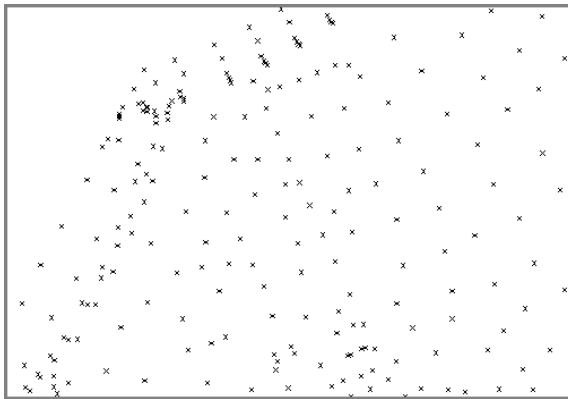

FIGURE 3.3 So far, importing data shows only a bunch of relatively meaningless x markers in the drawing.
12. Zoom in to the drawing, and examine what you see (see Figure 3.3).
As you might guess, the process of making a drawing out of point data is quite tedious and presents an opportunity for automation. Imagine using the result from the steps in the previous section (see Figure 3.3) to create a map of the land. With no information accompanying the points, it would be nearly impossible. In the following sections, you'll see how to use several Civil 3D features to automate this process, resulting in a drawing that is 80- to 90-percent complete immediately after you import the raw field data. However, as is usually the case, the more automation you want, the more setup you're required to perform. Automation is another way of saying that you're going to make a bunch of decisions ahead of time and ask the computer to carry out those decisions when needed.